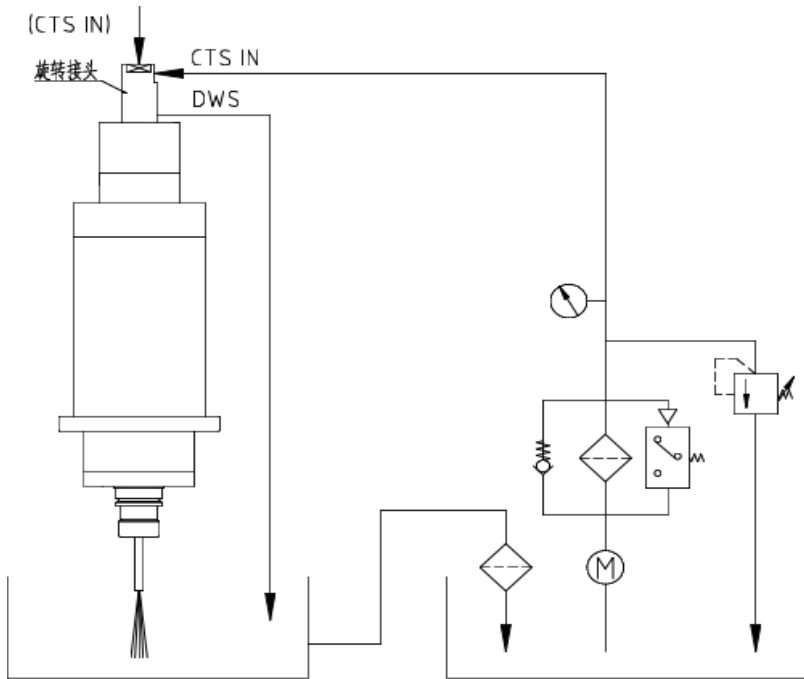

Figure 4.10 Connection diagram of rotary joint
- 1) Swivel joints can be connected as shown in Figure 4.10.